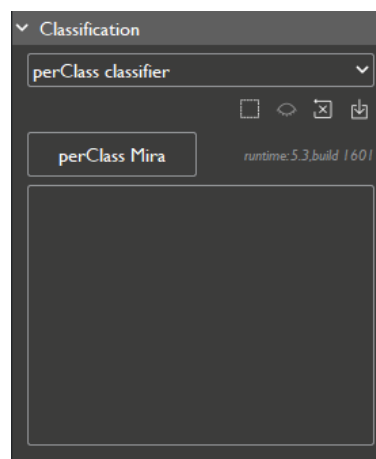

Figure 96 View of the classification panel when “*perClass classifier*” is selected
- Step 1** - Select “*perClass classifier*” using the pull-down menu (see Figure 96).
- Step 2** - Click on “*perClass Mira*” button to open the perClass Mira software (see Figure 96).